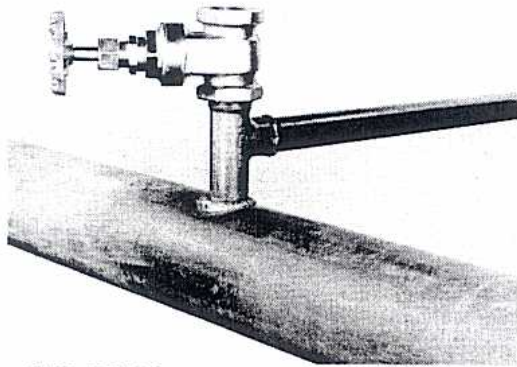

FIGURE 10
- a. Attach gate valve to top of Tee. (If installing a  $\frac{3}{4}$ " Service Tee, first attach the  $1\frac{3}{4}$ " x 1" bushing to the tee and then attach the gate valve to the bushing.) FIGURE 10.